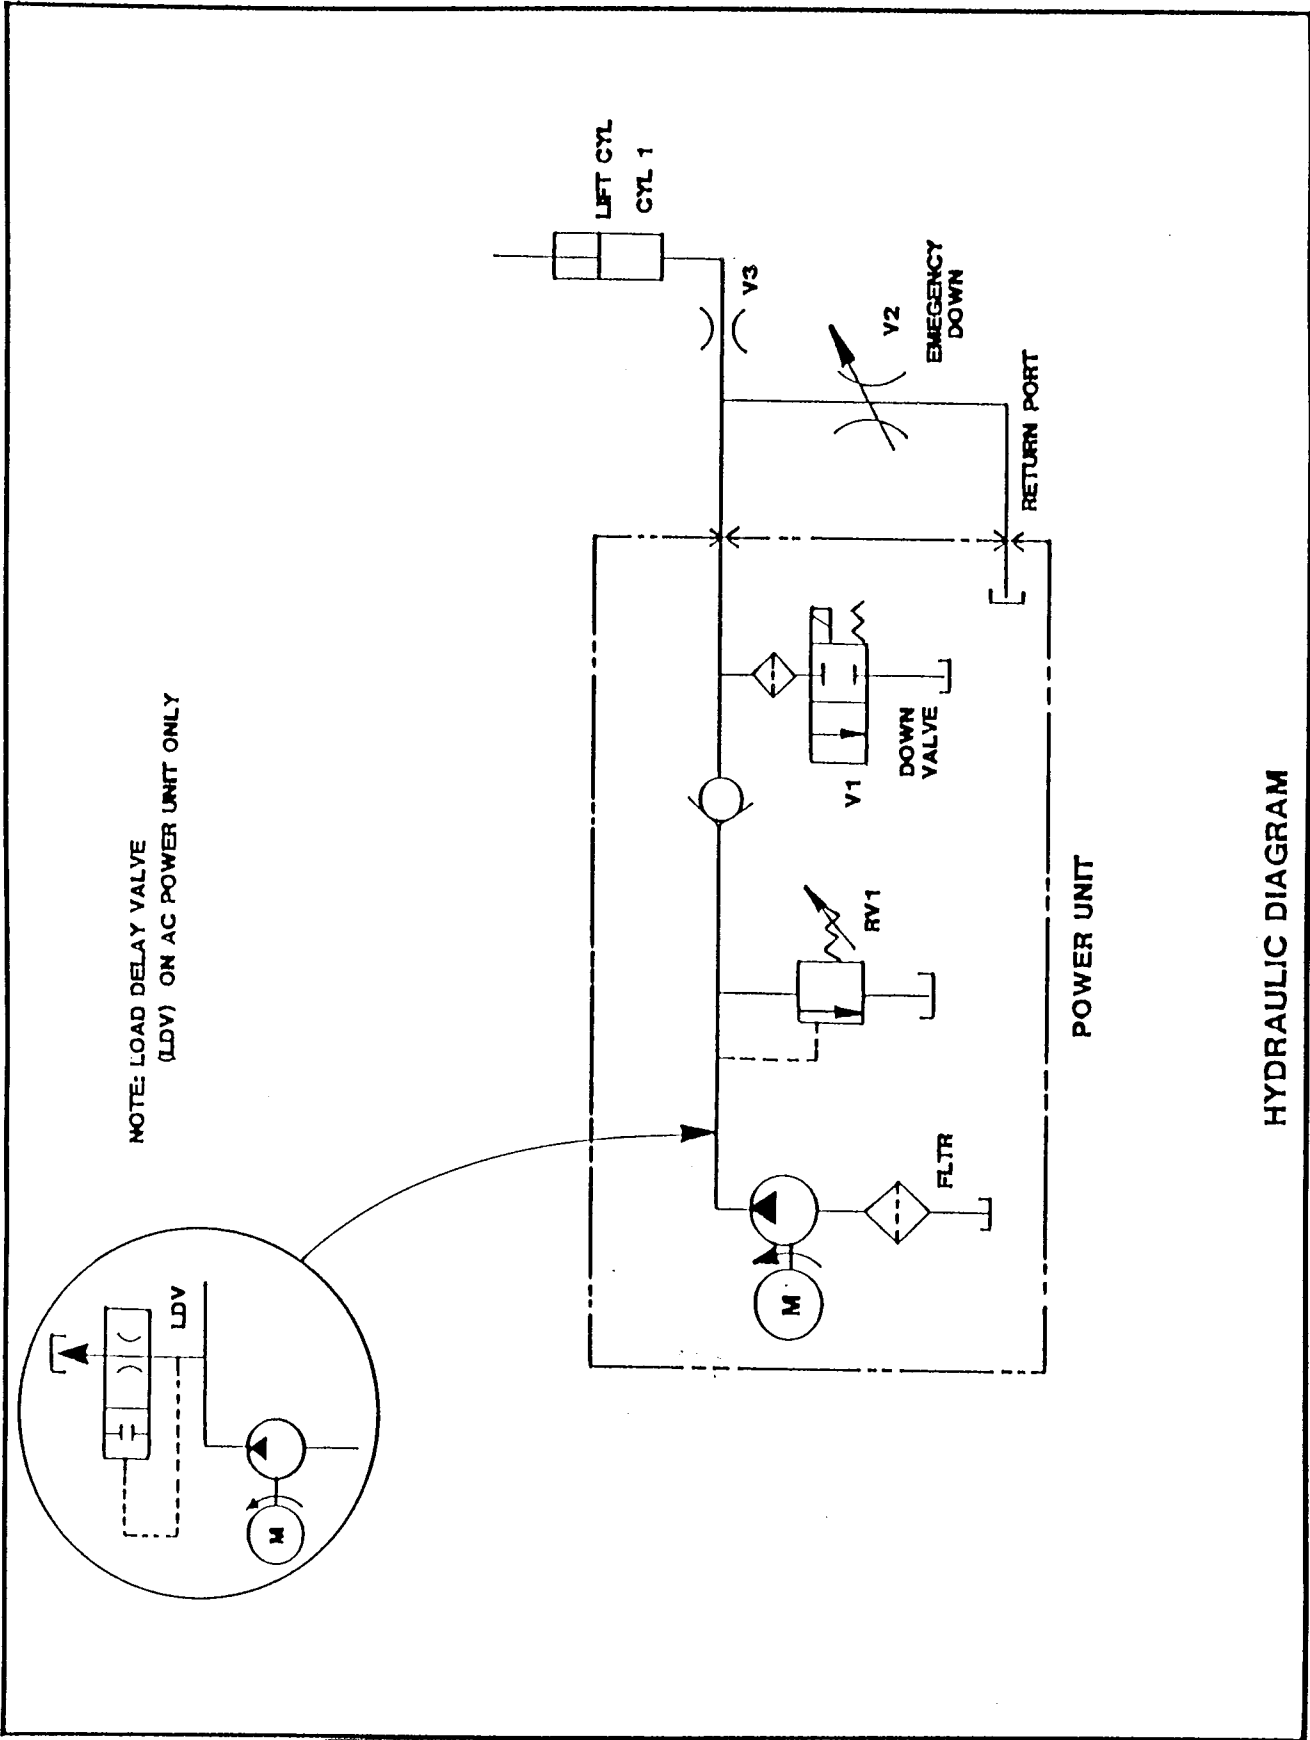

Figure 6-3. Hydraulic Diagram
- Figure 6-3. Hydraulic Diagram.